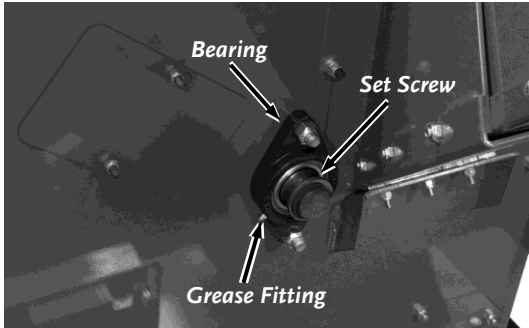
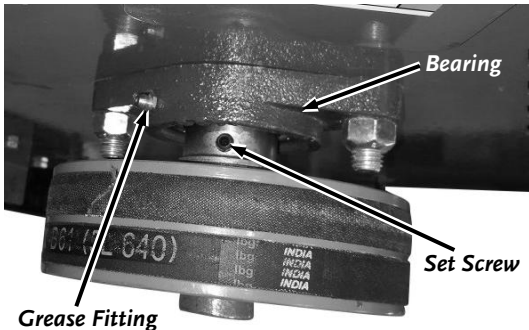

Figure 27
Figure 28
4. Wipe all debris from the grease fitting on the Hopper side (**Figure 27**) and the Belt side (**Figure 28**) with a clean cloth.